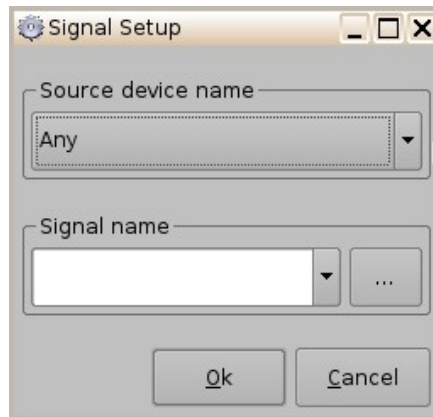

Figure 199: Signal Setup Window
- Choose the device from the drop-down menu (Figure 199).
- Choose the signal from the drop-down menu (Figure 199).